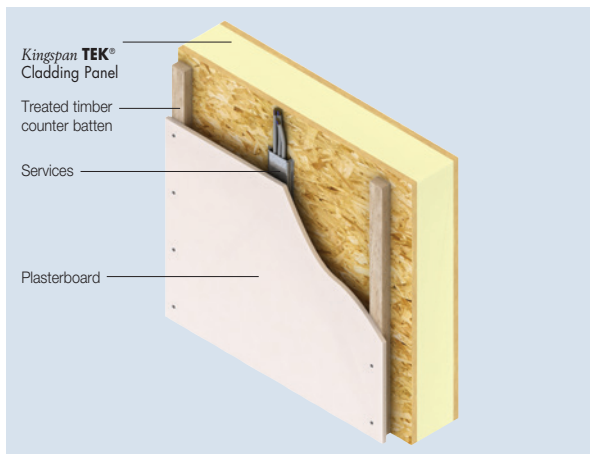

Figure 7
- a single layer of min. 12.5 mm plasterboard on min. 25 mm deep by 50 mm wide vertical timber battens (see Figure 7); or